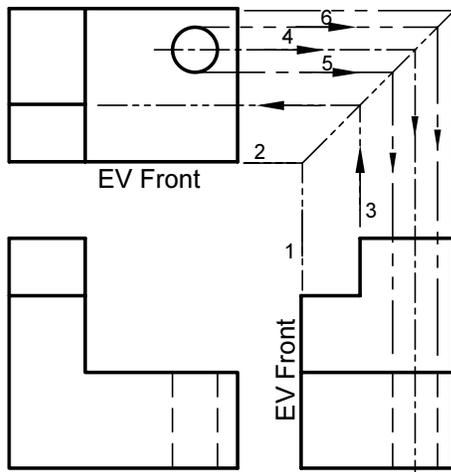

Figure MVD 8: The 45° miter line is used to transfer details between the top and right views
Figure MVD 8 provides a look of how a 45° miter line is used to transfer depth between the top and right views. The 45° miter line starts at the intersection of lines 1 and 2. Lines 1 and 2 radiate from the edge views (EV) of the frontal planes in the top and right views. Line 3 helps transfer the small notch from the right to the top view. Line 4, 5, and 6 help transfer the hole from the top to the right view. Using the 45° miter line makes it both faster to construct a multiview drawing and allows you to check yourself with respect to the right/top and left/top relationships.